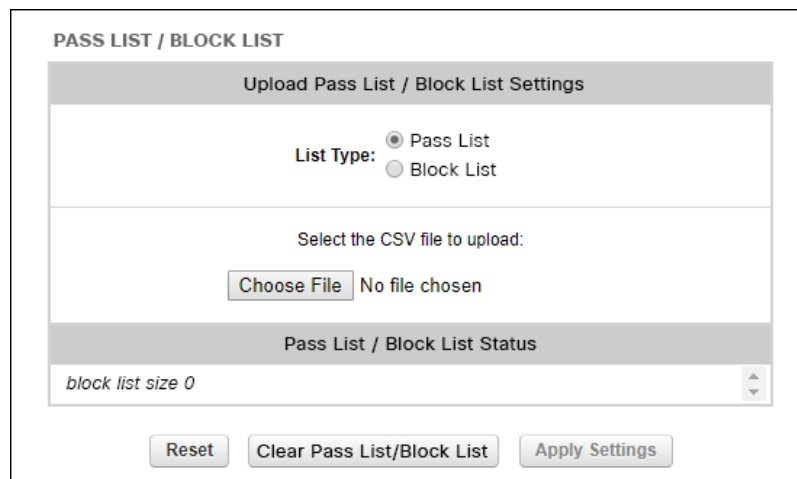

Figure 38. Configurator (Pass list / Block list dialog)
- The **Pass list / Block list** dialog will be shown (Figure 38 \(page 109\)).